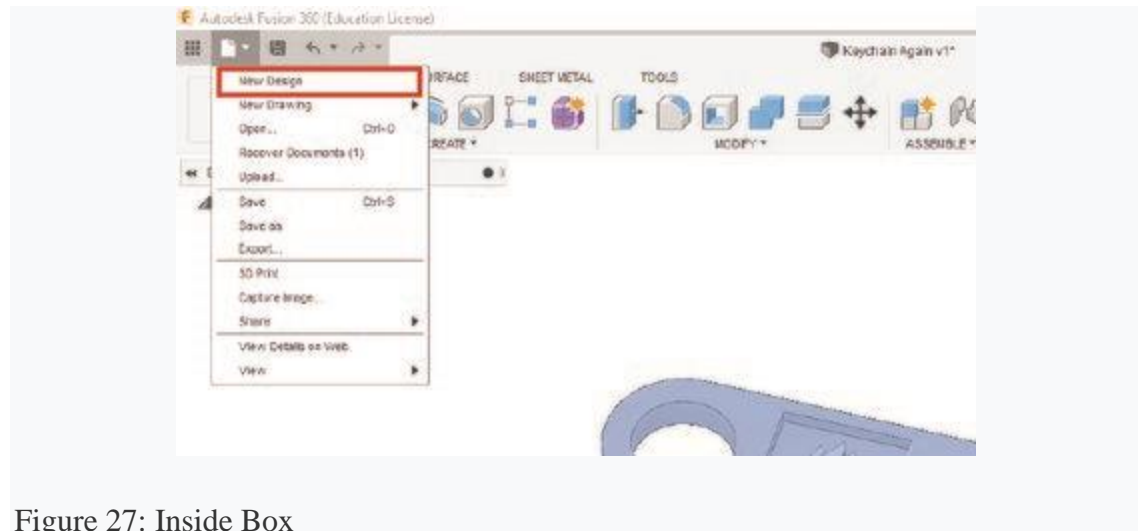

Figure 27: Inside Box
- i. This model is shown in Figure 27.